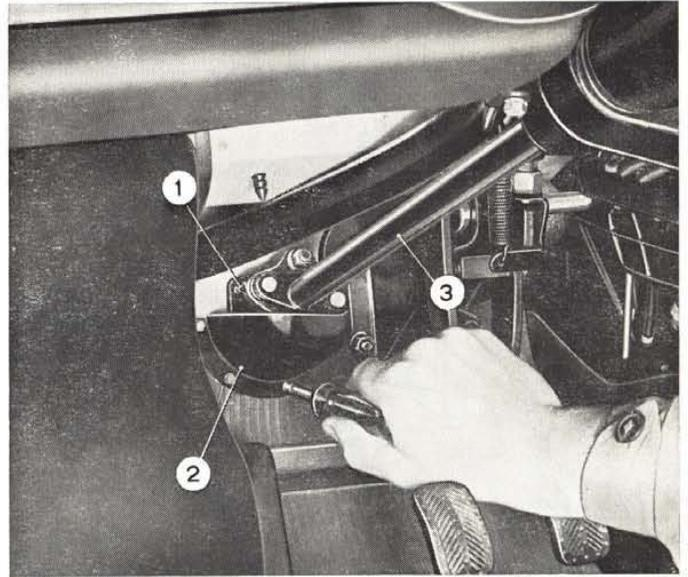

Fig. 445 - Removing steering column joint shield.
- remove the joint shield (fig. 445);
- remove remaining mounting screws and lift out the joint as shown in fig. 445.